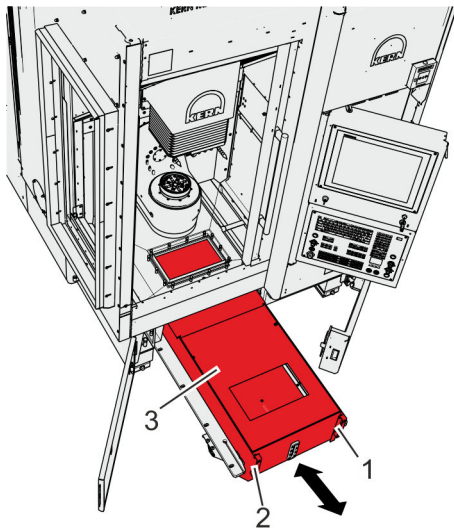

Fig. 84: Cooling lubricant tank
9. → Remove the cover from the cooling lubricant tank (Fig. 84/3) and place it to the side.
Pull the entire cooling lubricant tank slowly by the handles (Fig. 84/1, 2) only so far out that the cover (Fig. 84/3) is completely visible.